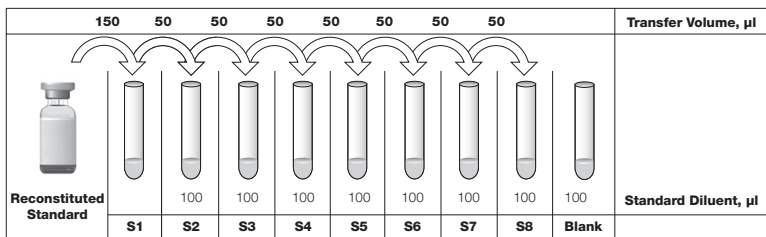

Fig. 3. Preparing a threefold dilution series with a single reconstituted standard.
3. Add the appropriate amount of the standard diluent into the labeled tubes according to Figure 3 (this will be sufficient for duplicate standard curves and blanks).